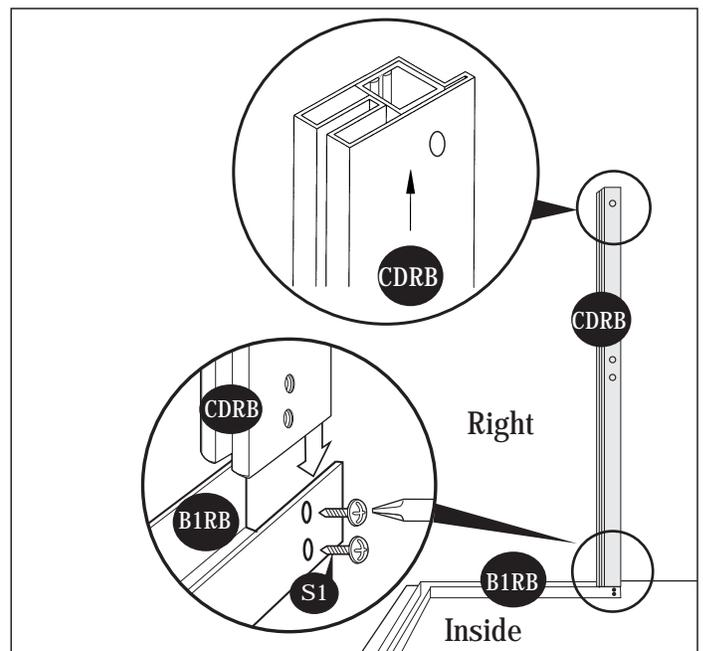

fig.1
1. Slide right door column (CDRB) into the U-Channel Base (B1RB) on the right side of the door. Line up the pre-drilled holes on (CDRB) Column with pre-drilled holes on U-Channel Base. Secure with two (S1) screws from inside. (See blowup detail fig.1)